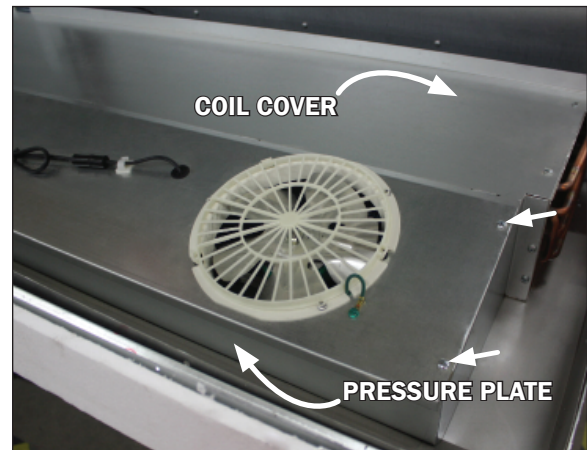
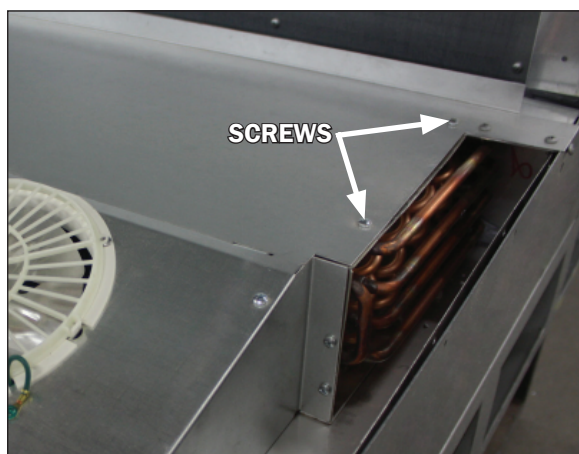

Fig. 19 Pressure plate, screw locations and coil cover (topside)
Fig. 22 Coil cover removal
2. To access the underside of the fans first remove the screws on the top ends and front sill of the pressure plate cover (Fig. 19). Lift the pressure plate by use of the provided lift handles (Fig. 120). There are hinges shared
2. Remove the top two screws at both ends of the coil cover (Fig. 22), as well as the screws from the top ends and front sill of the pressure plate cover (Fig. 19). **Be sure to save the removed screws for reassembly.**